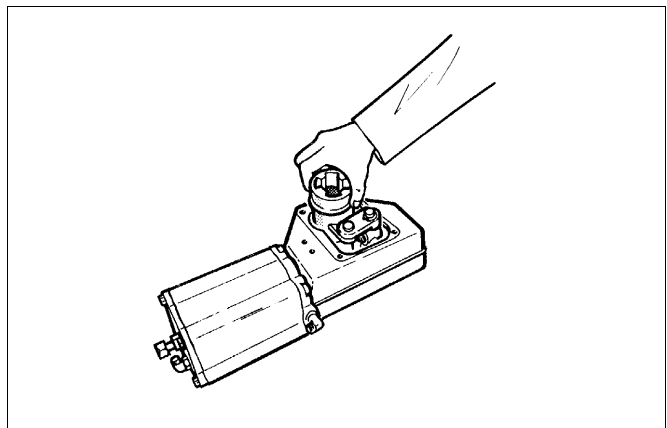

Fig. 15 Removing the linkage from the housing
- ❑ Turn lever arm (3) to detach the bearing unit from the piston rod (10). Lift the entire linkage out of the housing. See Fig. 15.
- ❑ Turn lever arm (3) to detach the bearing unit (5) from the piston rod. Lift the entire linkage out of the housing. See Fig. 15.